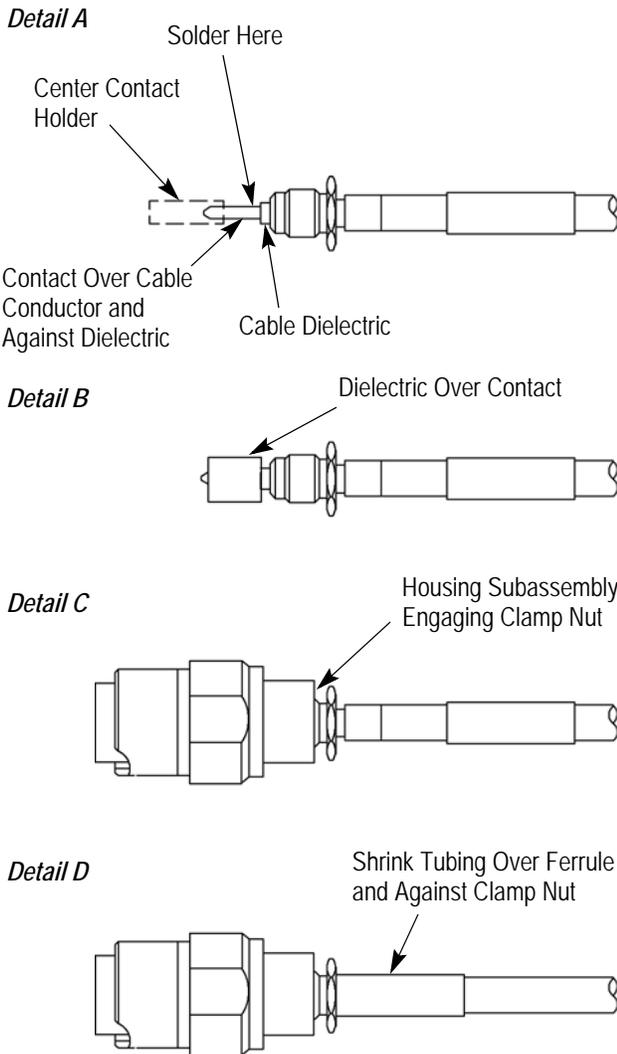

Figure 4
- Place the contact in the center contact holder. Heat the contact with a soldering iron, then carefully push the contact over the cable center conductor until it rests firmly against the dielectric. See Figure 4, Detail A. Remove excess solder and splatter.
7. Slide the dielectric over the contact. See Figure 4, Detail B.
8. Slide the housing assembly over the assembly until it engages the threads of the clamp nut. See Figure 4, Detail C. Tighten to a torque of 0.883 N•m [.651 lb-ft].
9. Slide the shrink tubing over the ferrule and against the clamp nut. See Figure 4, Detail D. Using a heat gun, apply indirect heat to the shrink tubing until the tubing has shrunk and is secured to the cable.